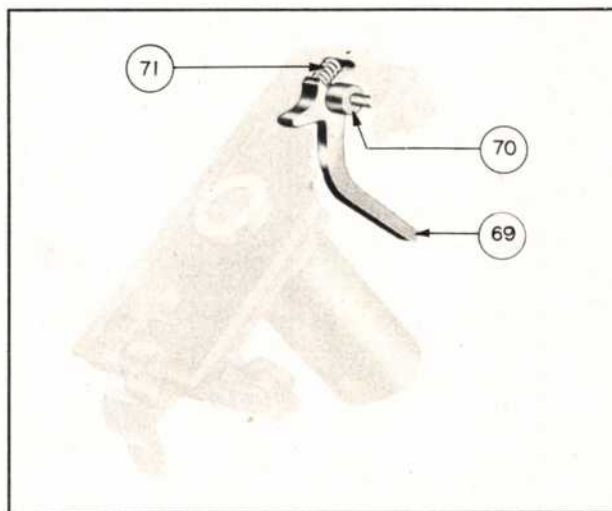

Figure 9—Inserting Bell Crank, Spacer and Spring
- c. Insert bell crank (69, figure 9), bell crank spacer (70) and bell crank spring (71). Reassemble backplate filler piece pin.